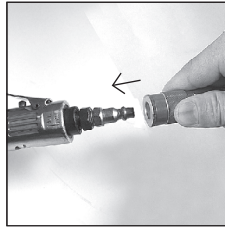

Figure 4
- Remove the air cap from the tool air inlet and connect the air supply hose to the tool. Set the air pressure at 90 PSI. (See Figure 4)